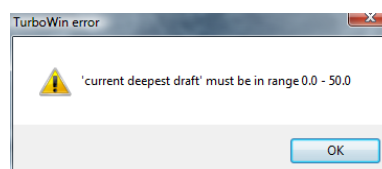

Figure 22. Current deepest draught warning message
- 10.6.4.** Enter **the current deepest draught** (in metres) in the dialogue box as shown in **Figure 21**. Click **OK**. The dialogue box shown in **Figure 22** will appear if the current deepest draft is omitted.